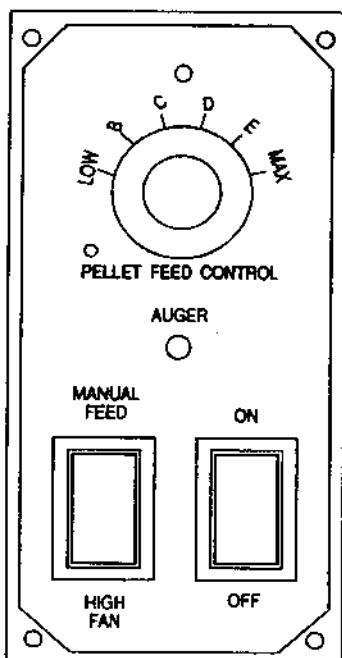

Figure 10
3.4 PANEL CONTROLS (see Figure 10)